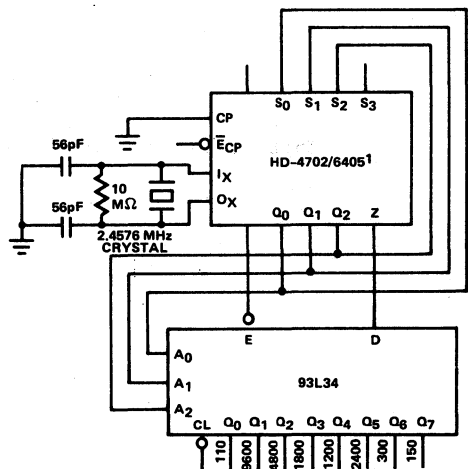

FIGURE 2
Figure 2 shows a simple scheme that generates eight bit rates on eight output lines, using one HD-4702/6405 and one 93L34 Bit Addressable Latch. This and the following applications take advantage of the built-in scan counter (prescaler) outputs. As shown in the block diagram, these outputs (Q₀ to Q₂) go through a complete sequence of
eight states for every half-period of the highest output frequency (9600 Baud). Feeding these Scan Counter Outputs back to the Select Inputs of the multiplexer causes the HD-4702/6405 to interrogate sequentially the state of eight different frequency signals. The 93L34 8-Bit Addressable Latch, addressed by the same Scan Counter Outputs, reconverts the multiplexed single Output (Z) of the HD-4702/6405 into eight parallel output frequency signals. In the simple scheme of Figure 2, input S₃ is left open (HIGH) and the following bit rates are generated: